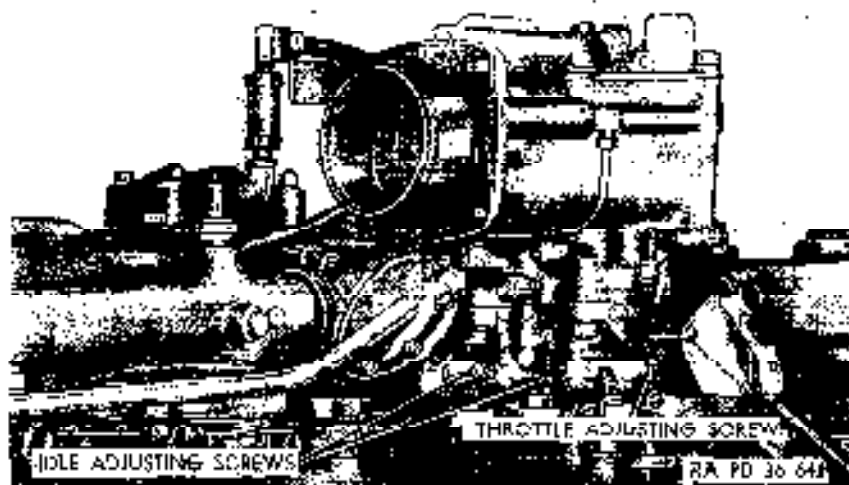

Figure 157. Right rear view of carburetor installed on engine.
- (c) Turn throttle adjusting screw (fig. 157) (clockwise to increase or counterclockwise to decrease engine idle speed) until the tachometer indicates engine idle speed of 200 rpm.
- (b) Adjust throttle adjusting screw (1) above).
- (c) Turn idle adjusting screws (fig. 157), one at a time, until vacuum gage indicates highest steady manifold vacuum. Turning the idle adjusting screws in (clockwise) provides a leaner idle mixture, and turning the idle adjusting screws out (counterclockwise) provides a richer idle mixture.